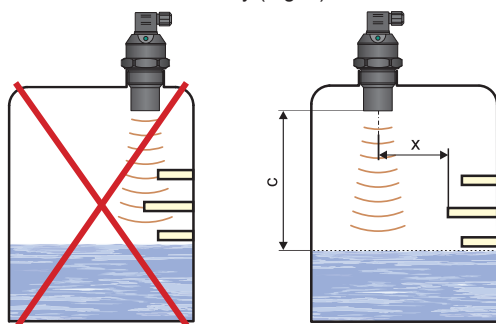

Fig. 9: Minimum distance from close objects in the tank
- The site for installing the level meter needs to be chosen so that the emitted acoustic signal is not affected by **nearby objects** (reinforcements, supports, brackets, ladders, heating elements, mixers, etc.). These obstacles may result in false rebounds, increasing measurement inaccuracy (Fig. 9).